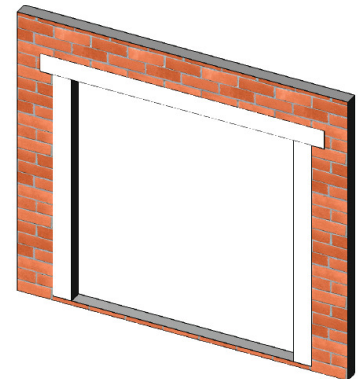

Figure 30:
3. Finally, at the head, embed the flashing into the sealant on the mounting flange and fasten into place. The flashing paper should be cut sufficiently long enough to extend past the flashing paper at each jamb by at least 3 in. (Figure 30).